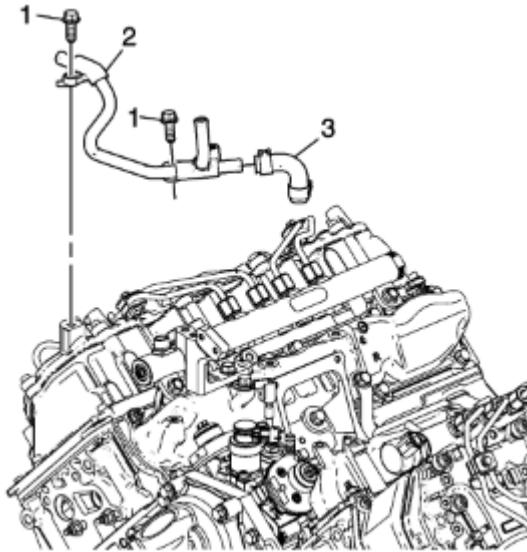
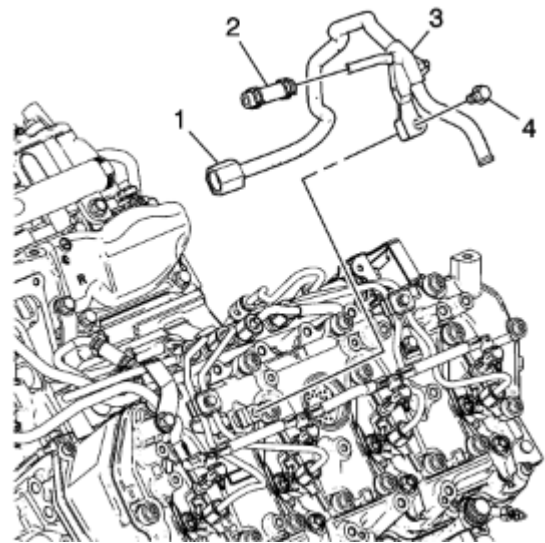

Fig. 96: Fuel feed hose and pipe installation
Fig. 105: Fuel filter return pipe installation
- a. Install the fuel feed hose (item 3) and fuel feed pipe (item 2). Install the fuel feed pipe bolts and torque the bolts to 18 ft-lb. Reference figure 96 for this step.
- j. Install the fuel return hose (item 2 in figure 105) and the fuel filter return pipe (item 3 in figure 105). Tighten the fuel filter return pipe fitting (item 1 in figure 105) onto the fuel return pipe installed in step 12b and shown in figure 96 and torque the fitting to 18 ft-lb. Install the mounting bolt (item 4 in figure 105) and torque the bolt to 89 in-lb.